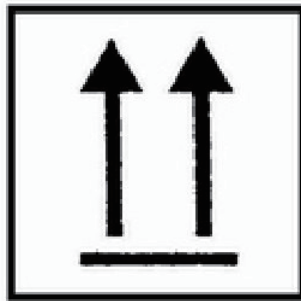

FIG 9-1
- 2、 The shipment should be vertical upward, as shown in the figure 9-1.